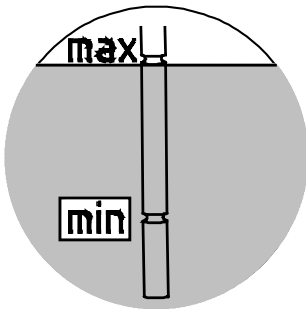

Fig. 17: Checking the oil level with a dipstick
3. Gear units with dipstick: The oil level in the gear unit must be between the upper and lower marking when the dipstick is fully screwed in (see Fig. 17). Top up the oil level with the relevant type of oil as necessary.
4. Gear units with an oil reservoir: The oil level must be checked **in the oil reservoir** with the aid of the dipstick plug (thread G1 1/4). The oil level must be between the upper and lower marking when the dipstick is fully screwed in (see Fig. 17). Top up the oil level with the relevant type of oil as necessary. These gear units may only be operated in the configuration stated in Section 6.1 "Configurations and maintenance".